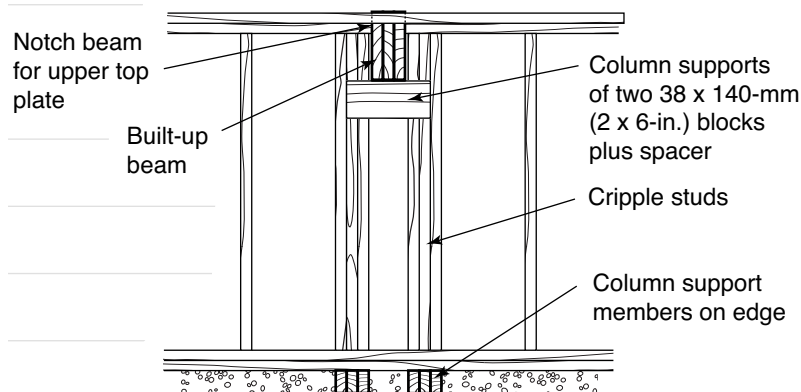

FIGURE 46
- ◆ Support beams with beam pockets built up of PWF members, and provide additional crib footings below the footing plate (see Figure 46).